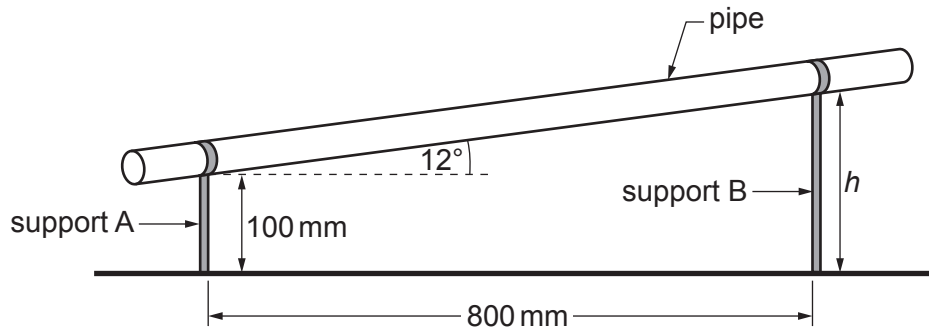

Fig. 2.1
- (b) A design engineer wants to support a pipe at an angle of 12° to the horizontal to allow fluid to drain properly. The pipe is held between two vertical supports, 800 mm apart, as shown in Fig. 2.1.